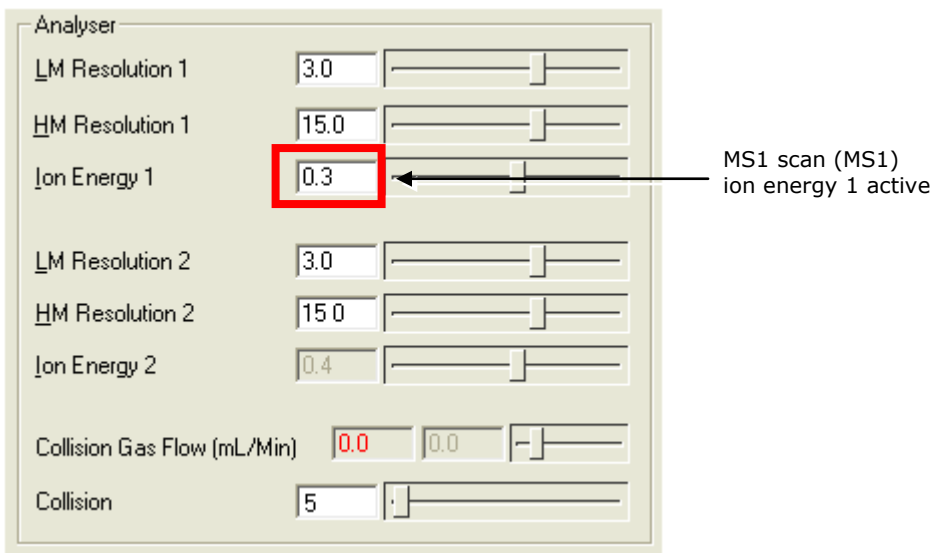

Figure 33 - Ion energy settings - MS1 scan
16. Ensure that the analyzer settings are correct for the MS1 scan function, see Figure 33.